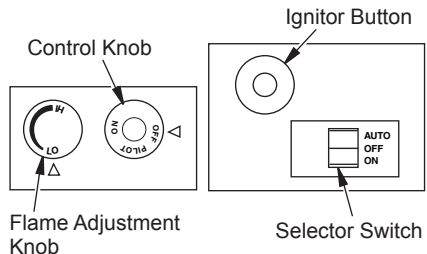

Figure 38 - Control Knob and Ignitor Button Location (Shown as Supplied, No Control Options)
5. Wait five (5) minutes to clear out any gas. Then smell for gas, including near the floor. If you smell gas, STOP! Follow "B" in the safety information, page 19, column 2. If you don't smell gas, go to the next step.
6. Press in and turn control knob counterclockwise to the PILOT position. Press in control knob for five (5) seconds (see Figure 38).